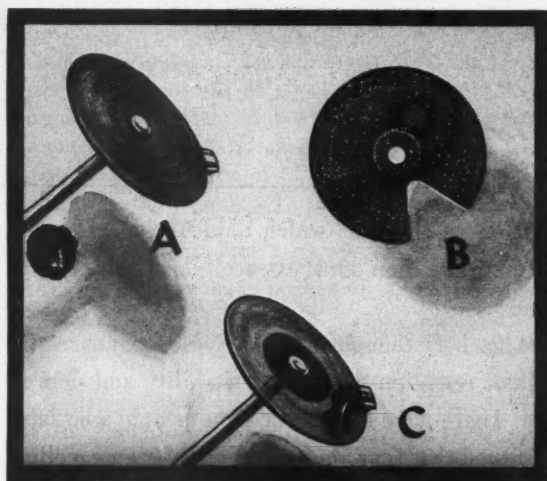

Fig. 1
Fig. 1—(A) Disc being used in the usual manner. (B) Cut a triangular piece out of the sandpaper or carborundum disc. (C) When this disc is in use, it is possible to "see through it," thus keeping the object being polished in clear view.